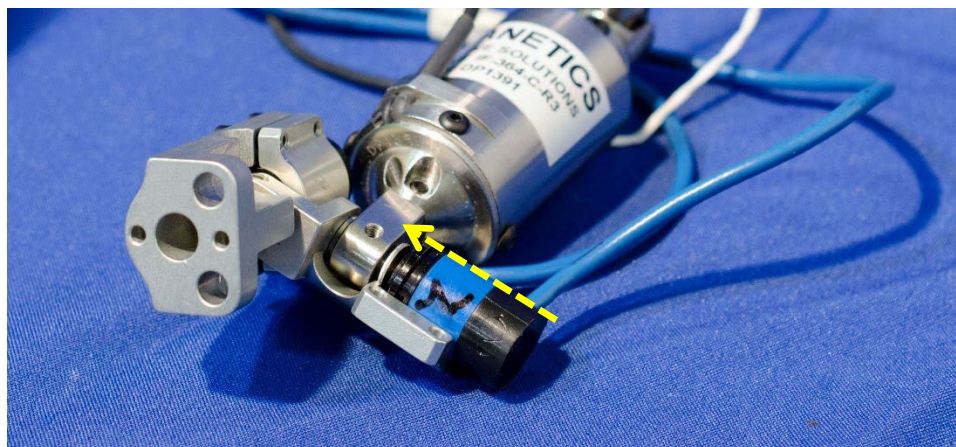
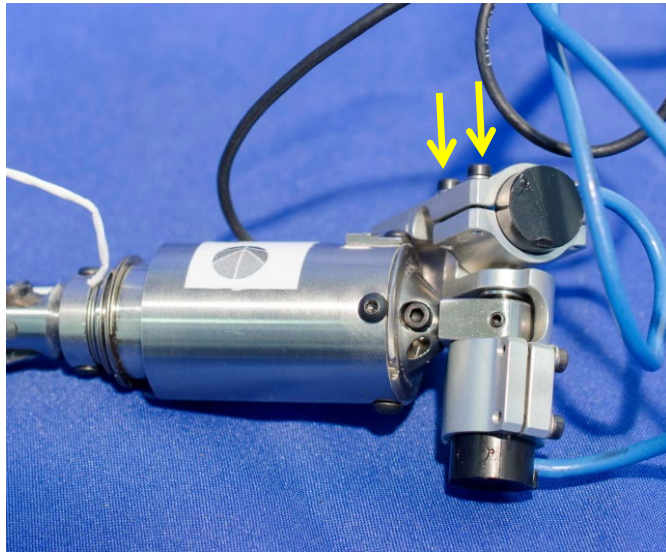

Figure 6-12. Install Z-axis potentiometer
Figure 6-13. Install Z-axis IR-TRACC clamp
- 6.2.2.4 Insert the Z-axis potentiometer through the end of the THOR-M Chest IR-TRACC (SA572-S117) (Figure 6-12) and install the IR-TRACC Clamp (472-3554) using four M2 split lock washers and M2 x 0.4 x 8 SHCS (Figure 6-13).